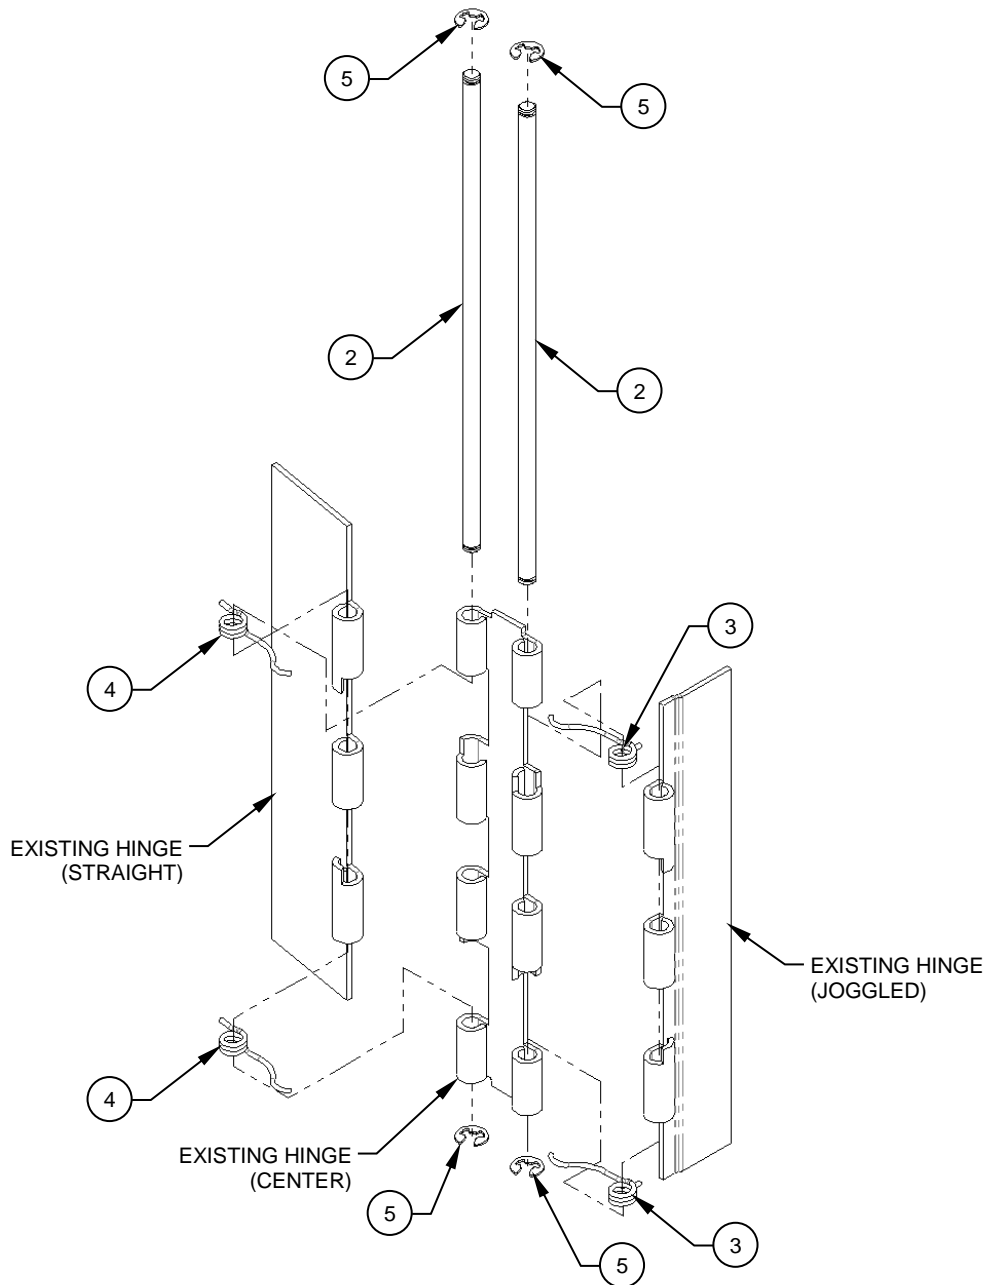

Figure 3
- Install the new Hinge Pins (Item 2) and Springs (Items 3 & 4). Reference Figure 3. It is recommended to install a Retaining Ring (Item 5) on one end of each Hinge Pin prior to driving them into the hinges. This will prevent damage to the retaining ring groove(s) during installation. Install the remaining retaining ring after the assembly of the hinge is complete.
5. Install the remaining Retaining Rings (Item 5) in the grooves in the new Hinge Pin (Item 2). Ensure all Retaining rings are properly seated. Reference Figure 3.